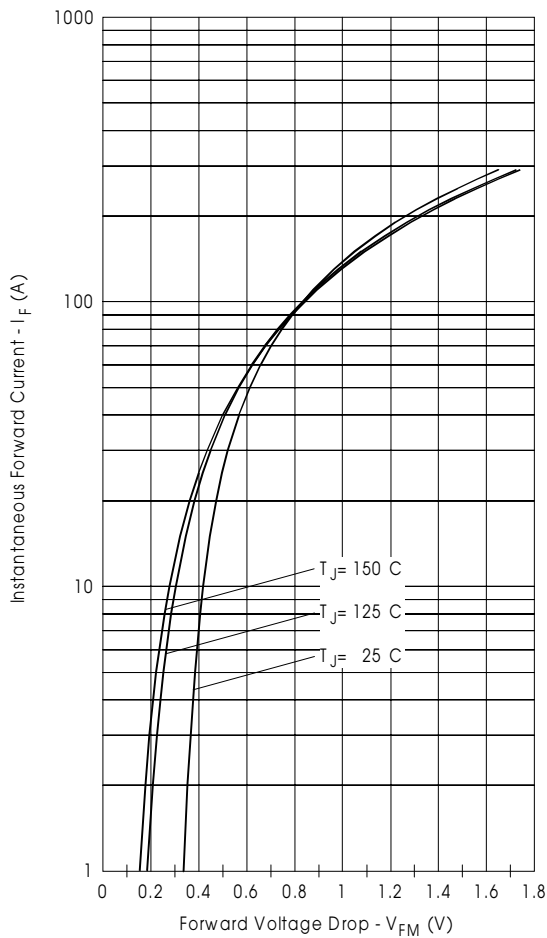

Fig. 1- Max. Forward Voltage Drop Characteristics (PerLeg)
| V_{FM} Max. Forward Voltage Drop (Per Leg) * See Fig. 1 (1) | 0.44 | V | @ 15A $T_J = 25^\circ\text{C}$ |